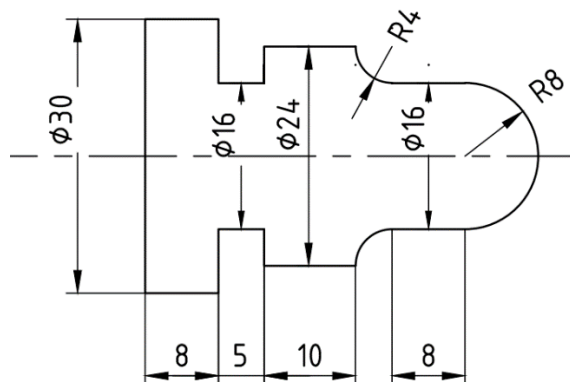

Figure 2
- (c) Prepare CNC turning part program for the figure 2. (Use stock removal cycle G71 first with depth of cut 0.5 mm and 0.1 mm finishing allowance then use G70 for finishing operation with Spindle speed 700RPM and Feed 0.5 mm per revolution)